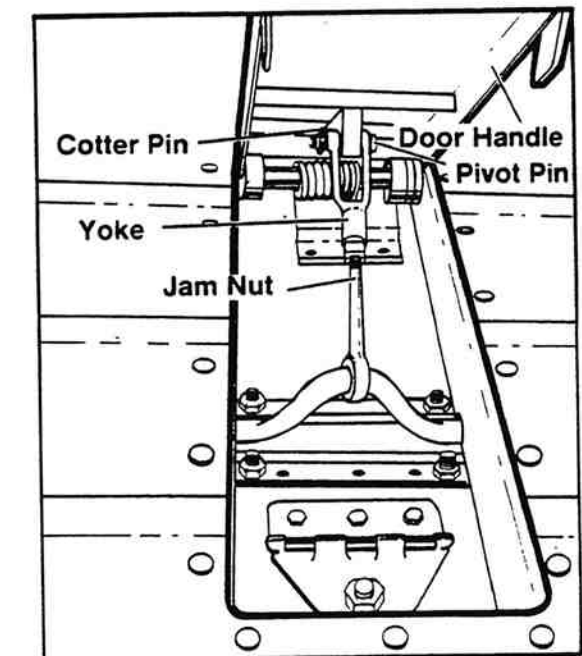

Figure 3-16. Baggage Door Catch.
2. Baggage door locks may be adjusted to provide an over-center lock. Remove cotter pin (on inside of operating latch—figure 3-16), retaining yoke pivot pin. Slide out yoke pivot pin. Loosen jam nut and turn threaded yoke to desired length.